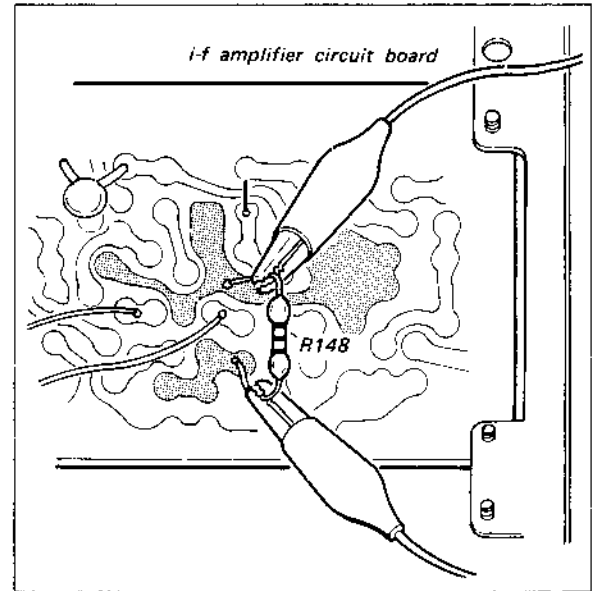

Fig. 3-19 A-m detector output connection
3. Connect the input cable of the oscilloscope across R148 on the i-f amplifier board, as shown in Fig. 3-19.